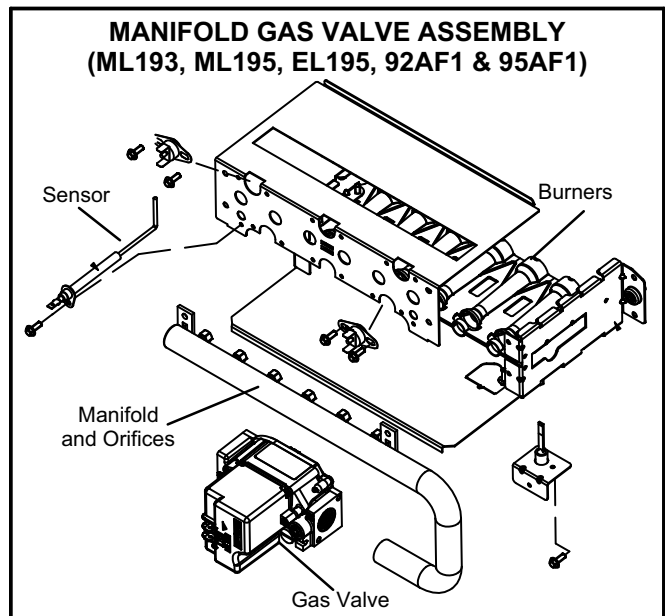

FIGURE 4
- 5 - Replace the burner orifices with the provided gas orifices. Torque to approximately 35 in-lbs. **Do not** use sealant on orifices. Figures 4 and 5 show manifold/gas valve assembly.